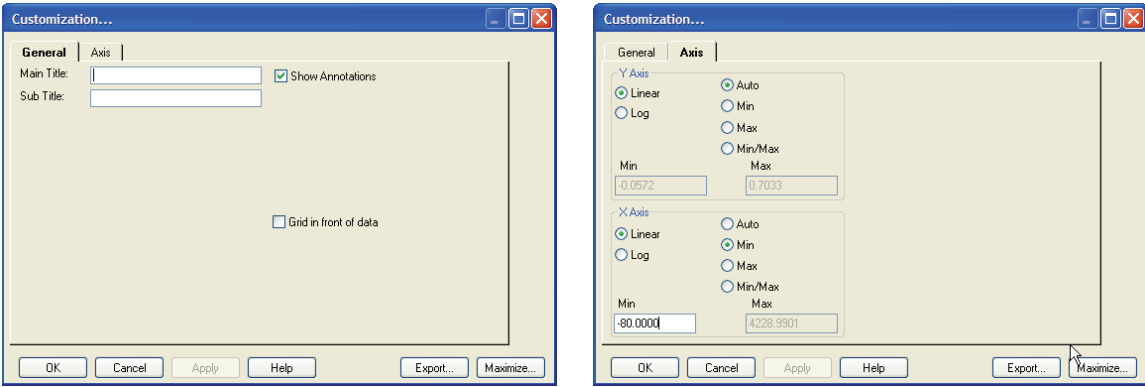

Figure B.3 Customization dialog box, General tab (left) and Axis tab (right)
Customization Dialog	Opens the Customization dialog box (Figure B.3). Note: You can also double-click the runtime binding chart to display the Customization dialog box.
- To display the Customization dialog box, double-click the data chart (Figure B.3).